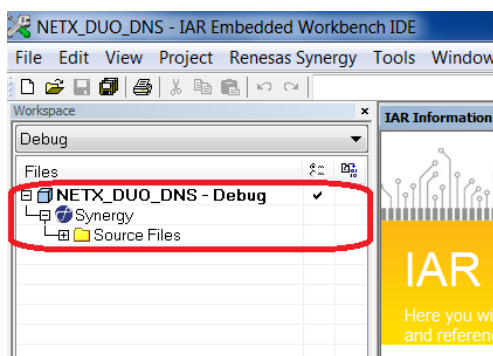

Figure 1.3 Project loaded in IAR EW for Synergy
- After opening the project, you should see the following project structure from Figure 1.3 in the IAR EW for Synergy IDE.